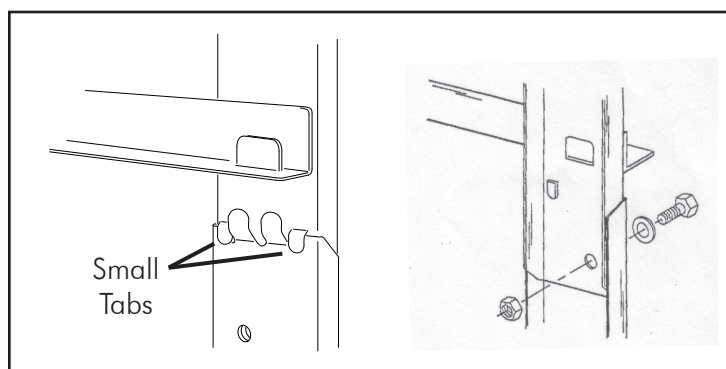

Figure 8
12. Install another set of legs beneath the first set as shown in Figure 8. Make sure the small tabs on the upper leg fit over the top of the lower leg. Install the bolts, washers, and nuts (finger tight only at this time).